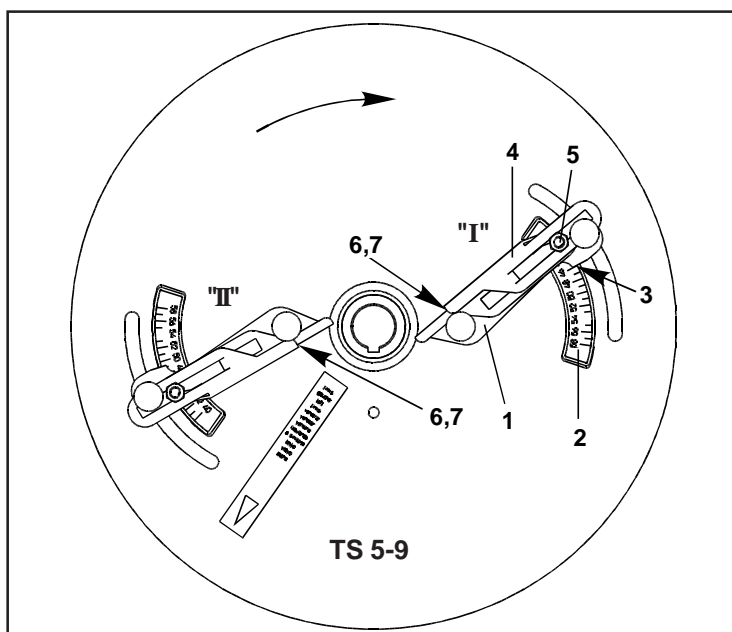

Fig. 7.11
- Set reading line (Fig. 7.11/7) of vane "I" to letter value "**D**" and fix outer vane part. Swivel vane "I" to figure "**50**" and fix.
- Set reading line (Fig. 7.11/7) of vane "II" to figure value "**F**" and fix outer vane part. Swivel vane "II" to figure "**46**" and fix.